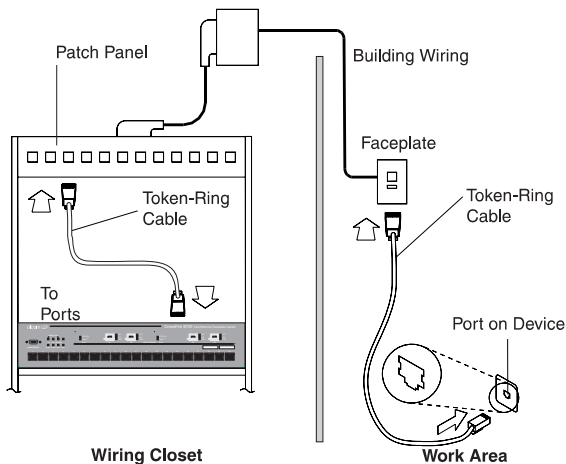

Figure 7. Connecting using Building Wiring
1. Using the Switch Cabling Chart provided by your administrator as a guide, connect the cables between the devices and the faceplates as illustrated in Figure 7.